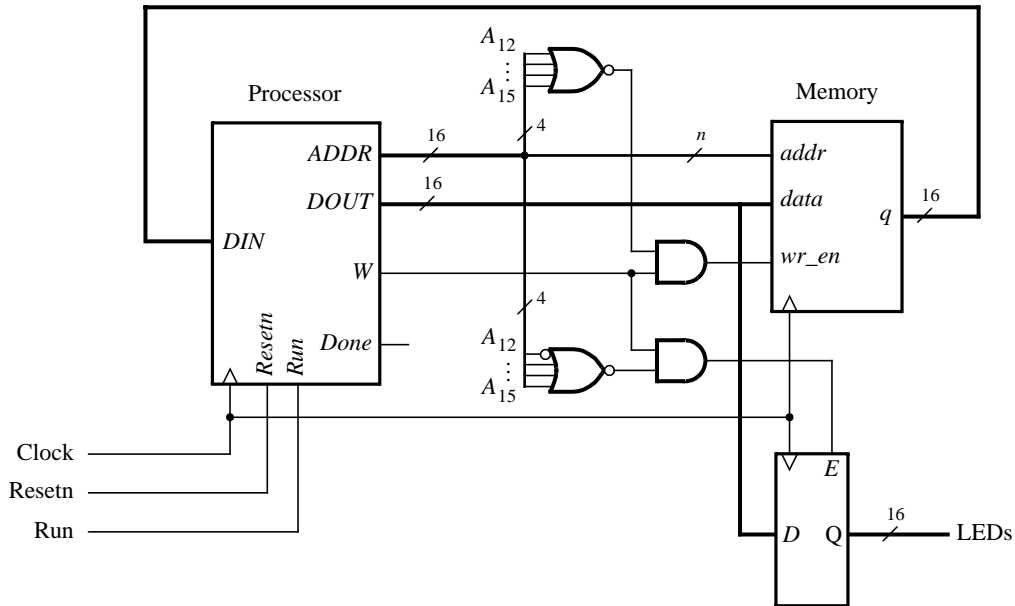

Figure 8. Connecting the enhanced processor to a memory and output register.
Figure 8 illustrates how the enhanced processor is connected to memory and other devices. The memory unit in the figure supports both read and write operations and therefore has both address and data inputs, as well as a write enable input. The memory also has a clock input, because the address, data, and write enable inputs must be
loaded into the memory on an active clock edge. This type of memory unit is usually called a *synchronous random access memory (synchronous RAM)*. Figure 8 also includes a 16-bit register that can be used to store data from the processor; this register might be connected to a set of LEDs to allow display of data on the DE2 board. To allow the processor to select either the memory unit or register when performing a write operation, the circuit includes some logic gates that perform *address decoding*: if the upper address lines are $A_{15}A_{14}A_{13}A_{12} = 0000$, then the memory module will be written at the address given on the lower address lines. Figure 8 shows n lower address lines connected to the memory; for this exercise a memory with 128 words is probably sufficient, which implies that $n = 7$ and the memory address port is driven by $A_6 \dots A_0$. For addresses in which $A_{15}A_{14}A_{13}A_{12} = 0001$, the data written by the processor is loaded into the register whose outputs are called *LEDs* in Figure 8.
2. Write VHDL code for the processor and test your circuit by using functional simulation: apply instructions to the *DIN* port and observe the internal processor signals as the instructions are executed. Pay careful attention to the timing of signals between your processor and external memory; account for the fact that the memory has registered input ports, as we discussed for Figure 8.
3. Create another Quartus II project that instantiates the processor, memory module, and register shown in Figure 8. Use the Quartus II MegaWizard Plug-In Manager tool to create the ALTSYNCRAM memory module. Follow the instructions provided by the wizard to create a memory that has one 16-bit wide read/write data port and is 128 words deep. Use a MIF file to store instructions in the memory that are to be executed by your processor.
Connect the *LEDs* register in Figure 8 to *LEDR*₁₅₋₀ so that you can observe the output produced by the processor.
1. Create a Quartus II project for your circuit and write the VHDL code that includes the circuit from Figure 8 in addition to your *seg7_scroll* module.